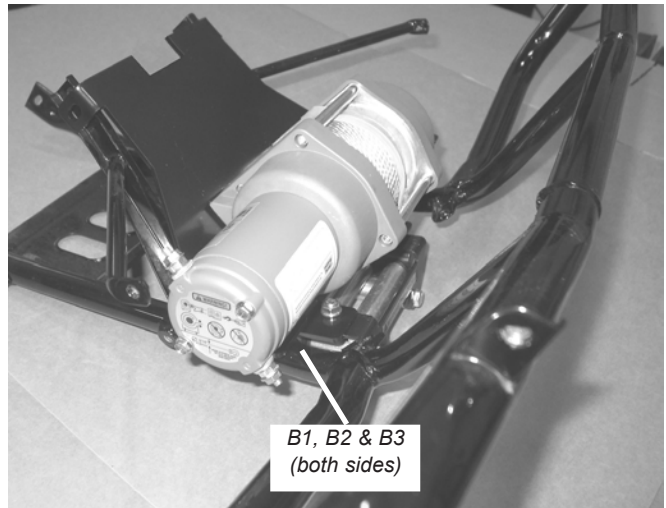

Figure 10 Place Winch, Mounting Plate and Roller Fairlead Assembly onto Front Bumper
10. Place the winch, mounting plate and roller fairlead assembly into position on the front bumper, figure 10. Install two 1/4-20 x 1" x 1 1/2" U-bolts (B1), four 1/4" flat washers (B2) and four 1/4-20 lock nuts (B3) that were supplied in the mounting kit, figure 10. Do not tighten fasteners at this time.